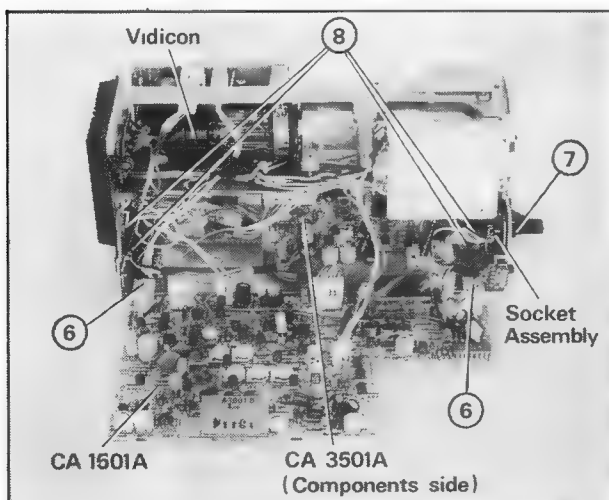

Fig 3.10
- (10) Remove the two screws **⑥** from the hinges located at the bottom of the body as illustrated in Figure 3.10
- (11) Remove the screw **⑦** from the socket assembly as shown in Figure 3.10
- (12) Remove the four screws **⑧** as shown in Figure 3.10 to remove CA 3501A.